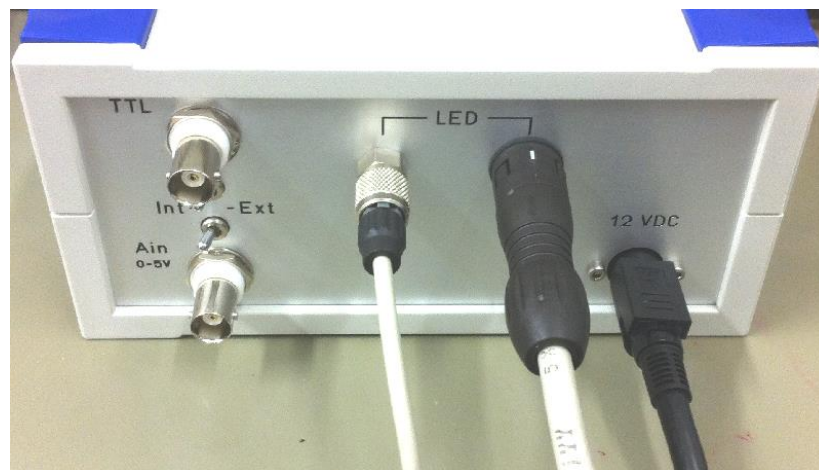

Figure 5: Cable connections on the rear panel of the UHP-LED-Current-Controller
4. Connect the LED Control Cable and the LED Current Cable to the UHP-T-LED Current Controller and to the UHP-T-LED Head (See Figure 5 below).